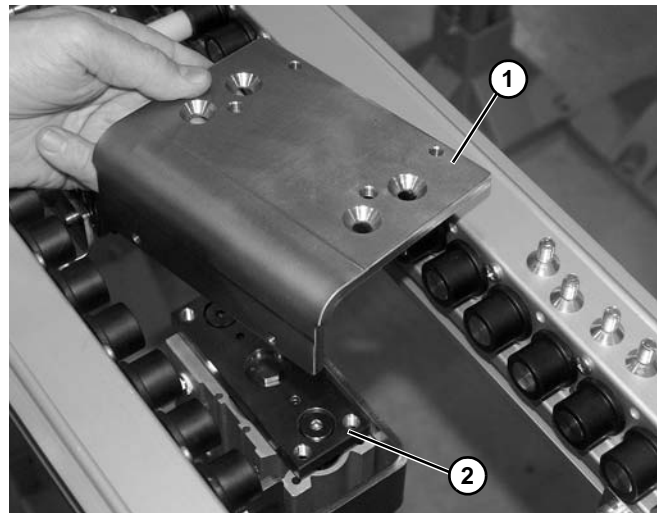

Figure 126
9. Remove top plate (**Figure 126, item 1**) from top of lift cylinder (**Figure 126, item 2**).